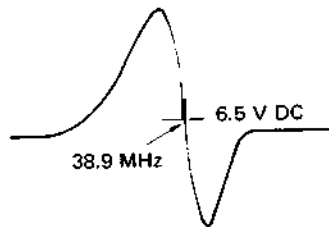

Fig. 5-37 S curve for RF AFC
3. Adjust the sweep gain so that the "S" curve indicated in Fig. 5-37 appears as observed with the oscilloscope. Adjust AGC bias so that the "S" curve does not distort.
4. Adjust T2 (AFC) so that video IF carrier (38.9 MHz) becomes 6.5 VDC as shown in Fig. 5-37.